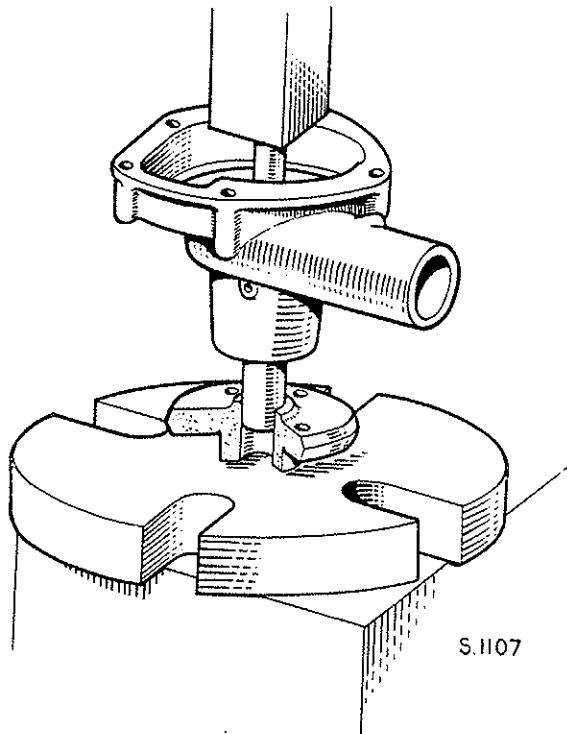

Fig. A.4. Pressing the fan pulley centre on the pump spindle
2. With the fan pulley centre placed on a suitable block under a press, chamfered end of bore uppermost (see Fig. A.4) insert the larger spindle diameter and press in until the front face of the pulley centre is positioned as shown by the dimension in Fig. A.3. This will ensure correct alignment of the water pump pulley with the crankshaft pulley.